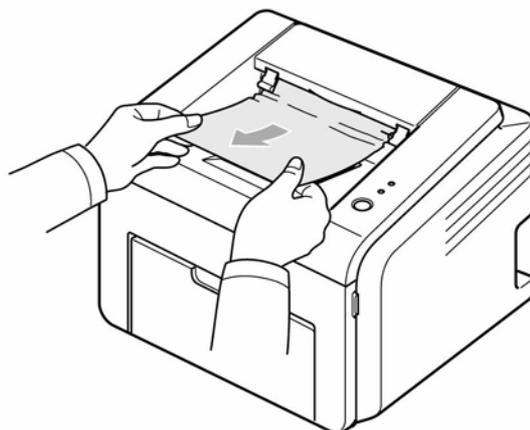

Figure 1
2. Gently pull the jammed paper out of the output tray, Figure 1.